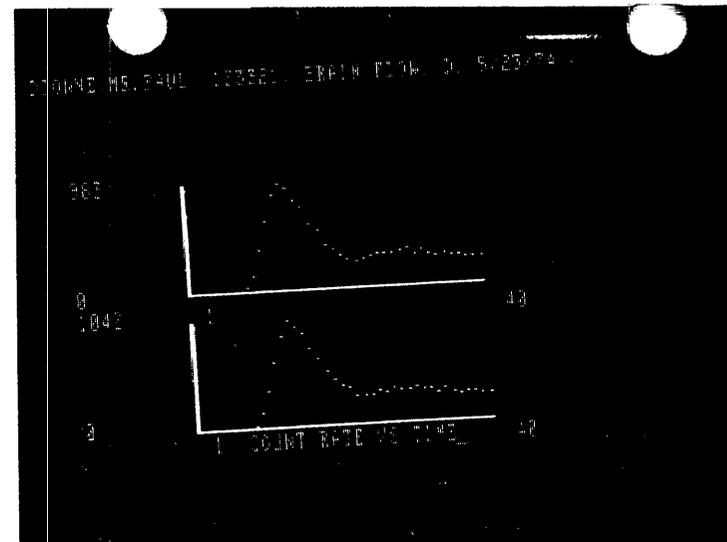

FIGURE 19. Dynamic curves of the ROIs
- 4) plot the curves (maximum of 12) and save the curves in a save area ( $SD_n$ ) (Figures 19,20)